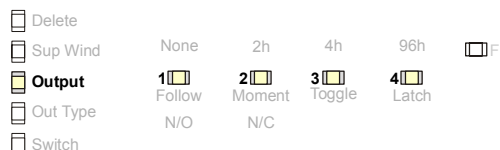

Figure 6 Select the Output Number
5. Use the **Advance** button to select the output number (Fig. 6). Press **Program** to complete and advance to output type option.